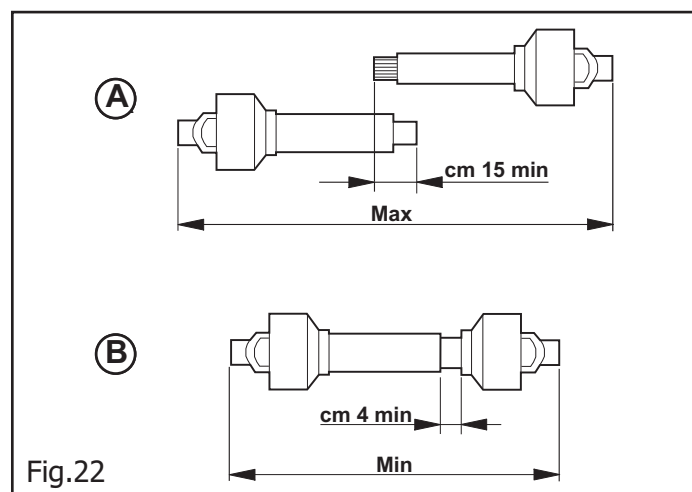

Fig.22
- When the Cardan shaft is with drawn to the end of its stroke, the two pipes should overlap by at least 15 cm (A, Fig.22). When it is inserted all the way, the minimum admissible play is 4 cm (B, Fig.22)